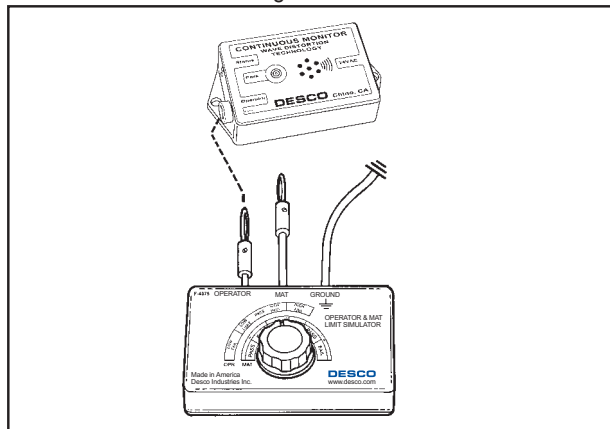

Figure 8. Connecting test lead from 98220 to 19226/19227.
Step 2: Insert the calibration unit's banana plug marked "Operator" into the jack marked "Operator" on the 19226/19227 tester. See figure 8.